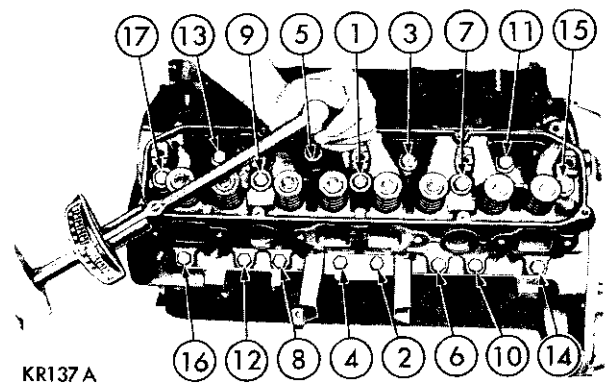

Fig. 6—Cylinder Head Tightening Sequence
(4) Install the cylinder head bolts. Starting at the top center, tighten all cylinder head bolts to 50 foot-pounds torque in sequence, as shown in Figure 6.